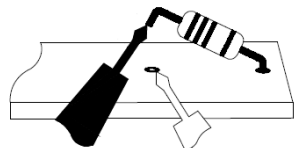
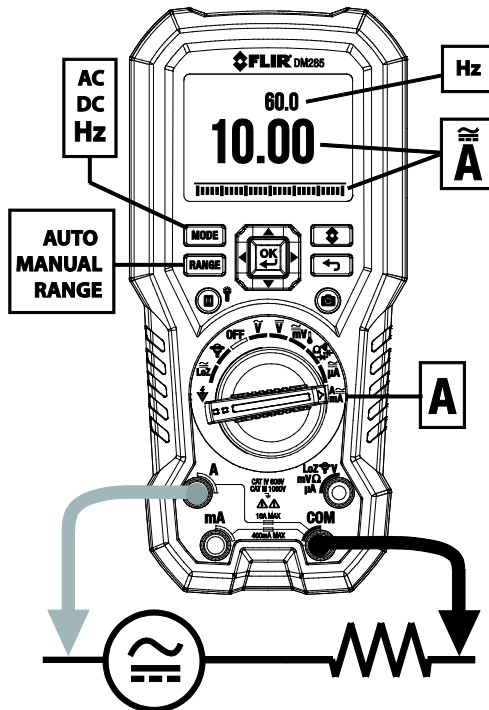

Fig. 9-8 Disconnected component
Fig. 9-9 High Current 'A' Measurements
For test lead current measurements, disconnect the part under test and connect the test leads in series with the part, see Fig. 9-8.
4. Connect the probe leads in series with the part in accordance with **Fig. 9-8** and **Fig. 9-9** for 'A' measurements, **Fig. 9-10** for mA measurements, or **Fig. 9-11** for μA measurements.